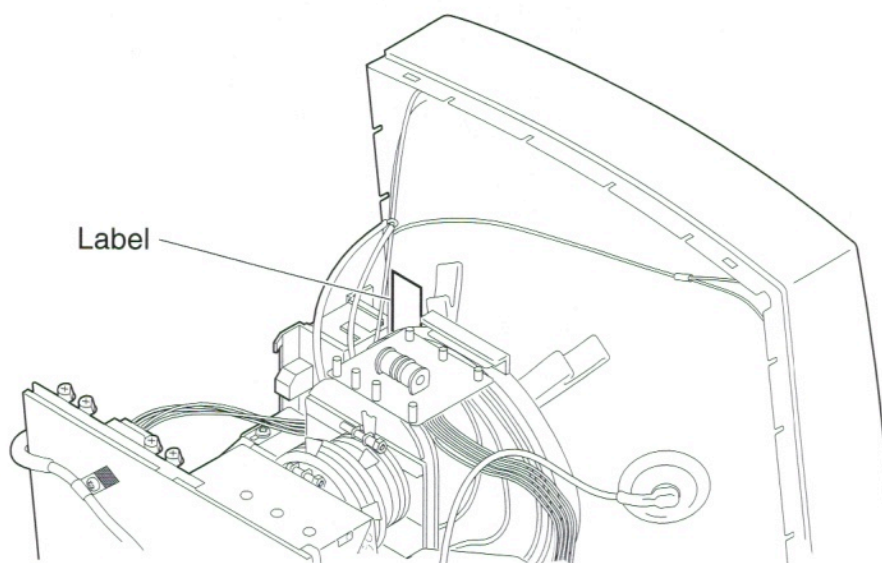

Figure 41. Determining the Type of CRT
8. To set the screen voltage, first check the label (see Figure 41) on the side of the CRT to determine the type: